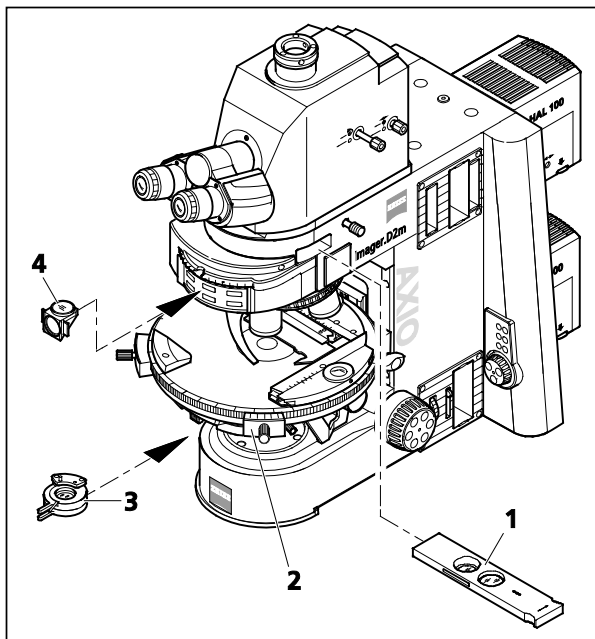

Fig. 199 Components for transmitted-light polarization
(2) Instrument equipment
- Rotary stage Pol (Fig. 199/2)
- Polarizer D (rotatable or fixed) (Fig. 199/3)
- Analyzer slider (Fig. 199/1) or analyzer module D (Fig. 199/4) in reflector turret (only on microscopes equipped with a reflector turret)
(3) Setting the microscope
- Set the microscope as for transmitted-light brightfield according to KÖHLER (see Section 4.12.1 (3)).
- Center rotary stage Pol (Fig. 199/2) and objectives (if not yet completed – see Section 3.36.3).
- Swivel polarizer (Fig. 199/3) into the light path and, if it is rotatable, turn it to 0° .
- Push the analyzer slider (Fig. 199/1) into the respective slot or swivel in the analyzer module (Fig. 199/4) on the reflector turret. The field of view appears dark due to the crossed polarizers.